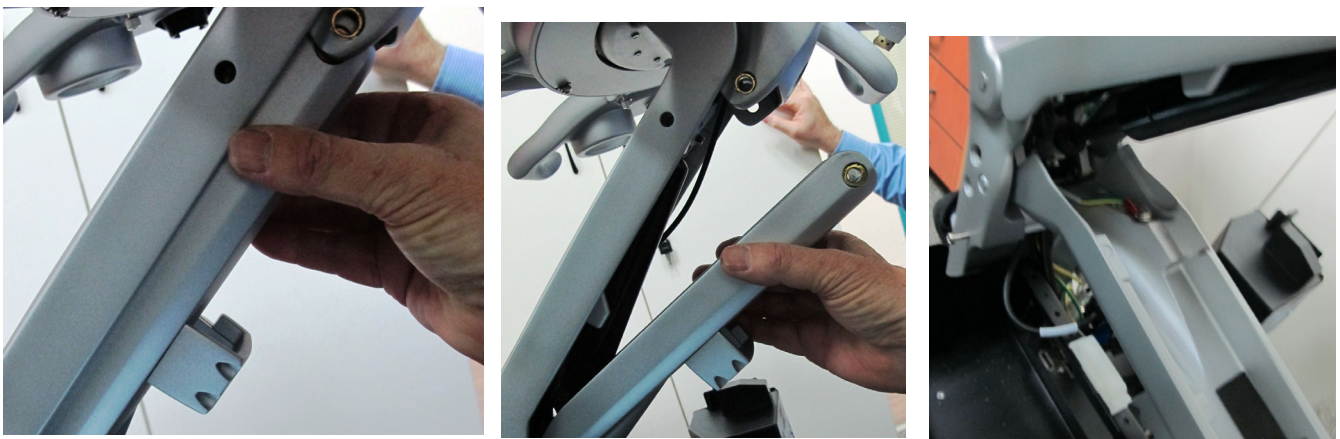

Figure 8-244 Upper Section of Lower Arm
- 5.) Lower the Lower Arm as shown in Figure 8-244 below.
- 6.) While moving the console slightly up and down with one hand, insert the securing pin (previously removed) - refer to Figure 8-244 on page 8-196.